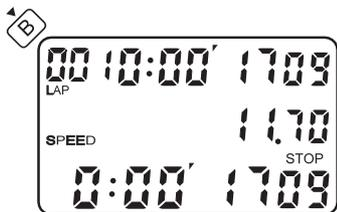

Fig. 17
- Press B to get the 1st LAP time at the top row and the speed at the middle row, as shown in Fig.17. If for example the distance is set to 200 meters and time unit set is in seconds, the speed calculated from a LAP time of 17.09 seconds is 11.70 m/sec. Using the B button the LAP times and their corresponding speeds can be displayed. Recall operations in the SPEED mode are the same as that in the LAP/ SPLIT mode.